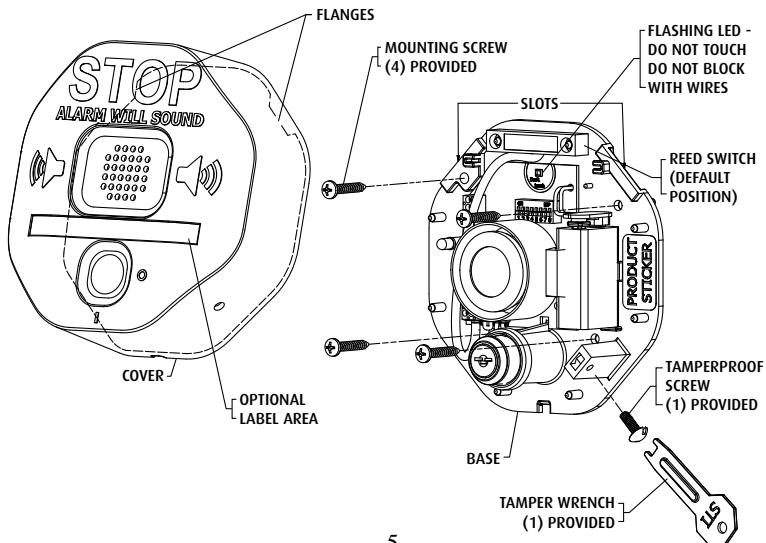

Figure 2
2. Remove tamper screw on the side of the unit using the tamper wrench provided. Remove housing cover. Save the tamper wrench for future service and battery replacement (Fig. 2).